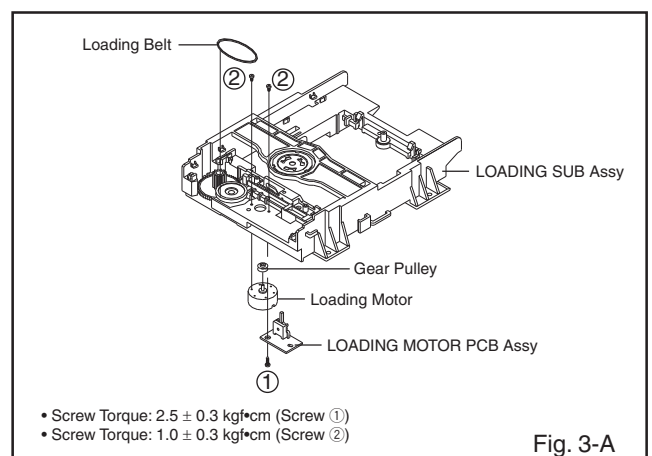

Fig. 3-A
- In case of the Pulley Motor installation, check if the value of the Fig. 3-B is correct.